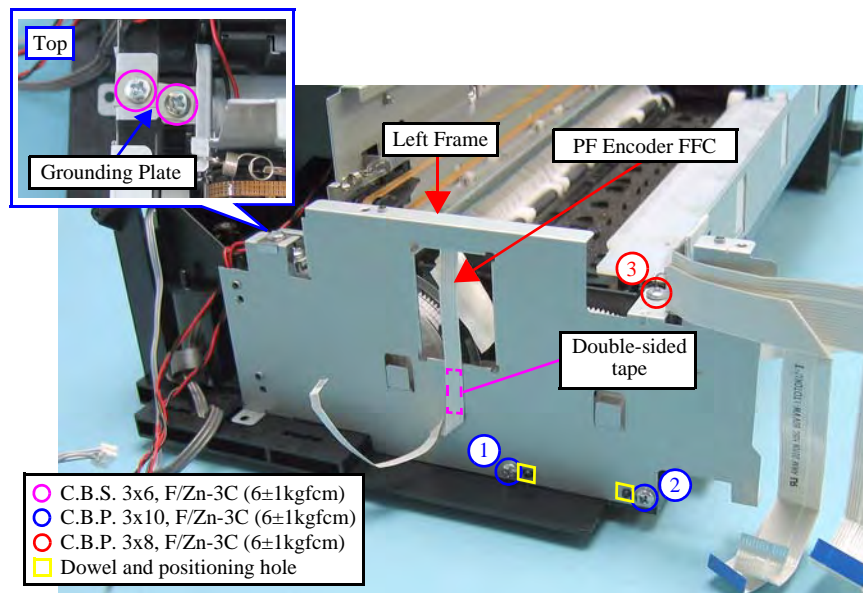

Figure 4-47. Removing the Left Frame
- Make sure to route the PF Encoder FFC through the hole of the Left Frame, and secure it with a double-sided tape as shown in Figure 4-47.
- Make sure to match the dowels of the Base Frame and the positioning holes of the Left Frame as shown in Figure 4-47.
- When installing the Left Frame, tighten the screws in the order given in Figure 4-47.